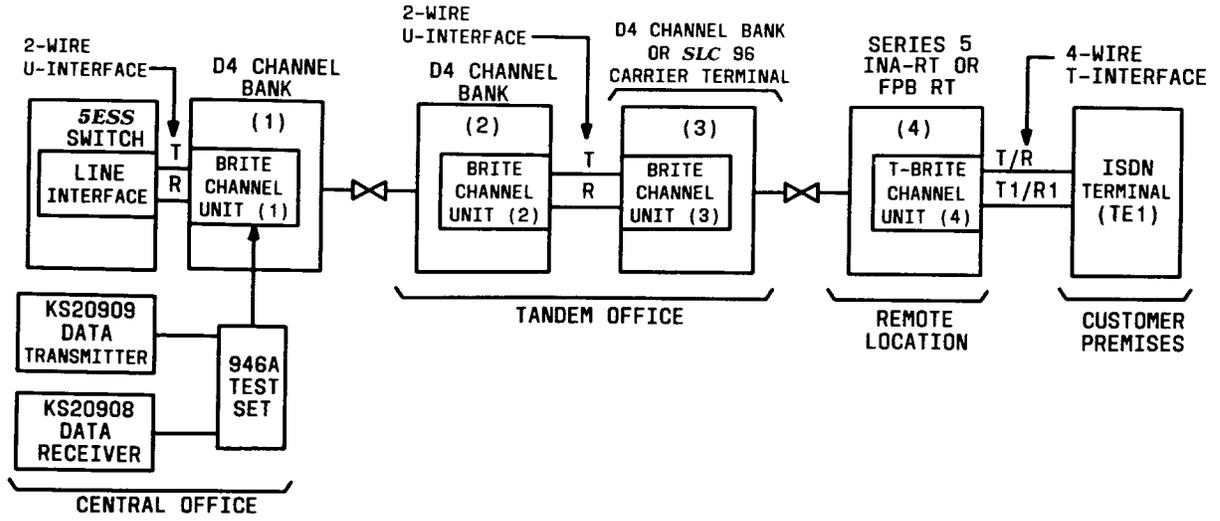

Figure 11 — ISDN circuit with tandem D4 channel banks
Figure 11 shows an example of an ISDN circuit with tandem offices between the **5ESS** switch and the terminating equipment (TE1). In Figure 11, a **946A** test set is connected to the BRITE channel unit in the D4 channel bank at the **5ESS** switch office. A **KS-20908** receiver data test set and a **KS-20909** transmitter data test set are connected to the **946A** test set. Each D4 channel bank in the loopback circuit is equipped with a BRITE channel unit and numbered corresponding to the **ADDR** switch positions on the **946A** test set.
Further loopback tests can be run to verify trouble indications. However, there are some limitations on testing. For example, the echo canceler loopback test will not pass on the number 3 position BRITE channel unit in Figure 11 because the loopback is at the 4-wire (carrier) interface. The echo canceler loopback test provides valid test results only from 2-wire reflective loopbacks. There are some cases where the loopback test passes, but the channel unit could be bad. Such cases could be a result of intermittent trouble, or a loopback transmitted toward the carrier side of the number 1 BRITE channel unit may provide a pass indication even though the number 1 BRITE channel unit is bad.
This procedure is optional and can be performed only on BRITE channel units with 2-wire reflective loopback toward the test set. If tandem **AHG13** BRITE channel units are used in the circuit, the second tandem unit (number 3 in Figure 11) will fail the echo canceler test because the reflective loopback is from the 4-wire carrier side of the unit. At **946A** test set, set switches for EC (echo canceler) test. Press **ACT** to start the test. The **ECF** indicator should light for about 2 seconds, then go off. Press **ACT** to end the test.
3. **Note:** If tandem **AHG13** BRITE channel units are used in the circuit, the second tandem unit (number 3 in Figure 11) will fail the echo canceler test because the reflective loopback is from the 4-wire carrier side of the unit.